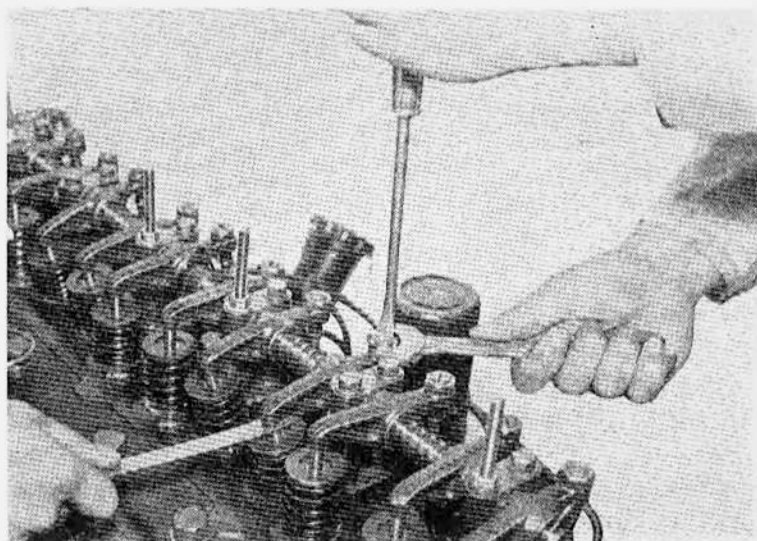

Figure 8 Valve Adjustment
(5) Adjust valve clearance hot as follows (Fig. 8).